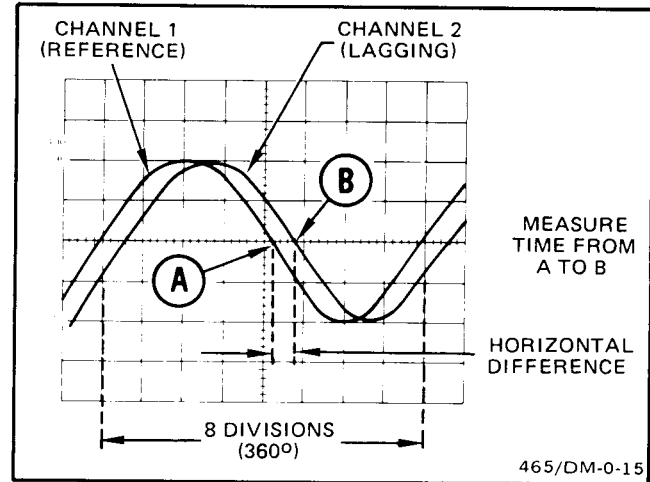
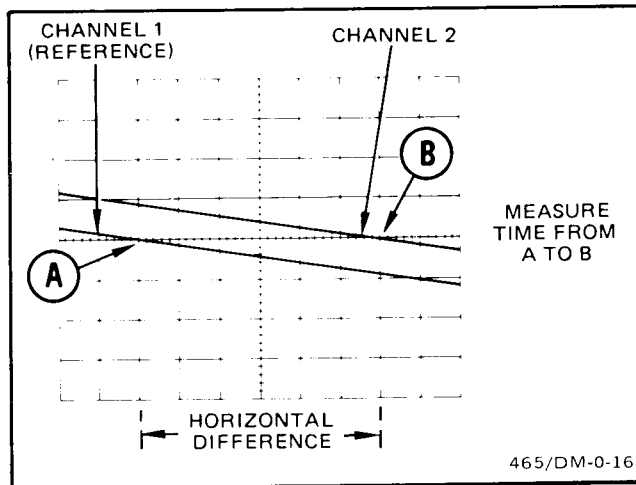

Figure 40. Phase difference.
Figure 41. High-resolution phase difference.
7. Set the TIME/DIV switch to display at least one full cycle of the waveform over the 10 graticule divisions. Position the display and adjust the TIME/DIV VAR control to place one reference signal cycle in exactly 8 divisions at the 50% rise-time points (see Figure 40).
EXAMPLE: The horizontal difference is 0.6 division with a graticule calibration of $45^\circ/\text{div}$ as shown in Figure 40.
More accurate phase measurements can be made by using the X10 MAG function to increase the sweep rate without changing the TIME/DIV VAR control setting (see Figure 41).
EXAMPLE: If the sweep rate were increased 10 times with the magnifier (X10 MAG push button in), the magnified horizontal graticule calibration would be $45^\circ/\text{div}$ divided by 10 (or $4.5^\circ/\text{div}$). Figure 41 shows the same signals illustrated in Figure 40, but magnifying the displays results in a horizontal difference of 5.8 divisions between the two signals. The phase difference is: